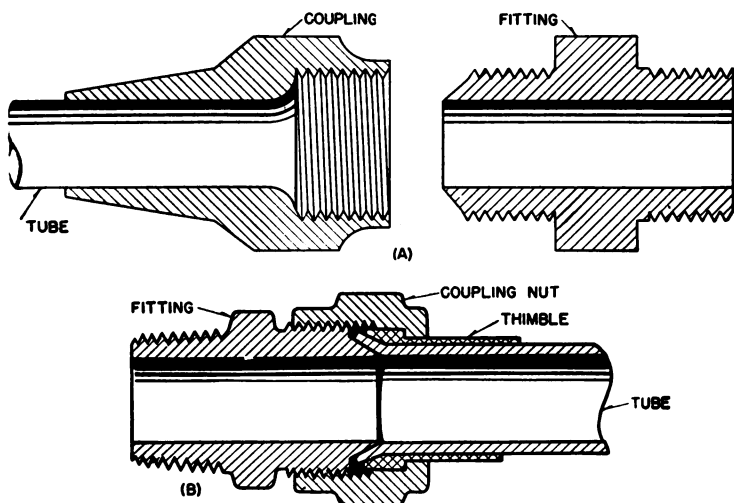

Figure 6.—Coupling for airplane fuel systems.
Flared-type couplings are used for connecting aluminum-alloy tubing. In the type that you see in figure 6 (A), the coupling consists of two pieces, one having an internal thread and the other an external thread. The internal member is slipped over the end of the tube. The end of the tube is flared, so as to fit the seat in the fitting. The external-threaded member is then screwed into the internal member, and its tapered end makes a gastight fit with the flared end of the tube.
The tube to be flared is clamped between the two blocks and the upper end of each tube hole is countersunk to conform to the exact shape of the desired flare on the tube. A punch or flaring pin is moved into position directly over the end of the tube in the countersunk hole, and is then struck with a hammer until the tube is properly flared. Unless the end of the tube is square and smooth—you should use a file for this purpose—you will probably get a one-sided or cracked flare. Make the flare slightly longer than the taper on the end of the clamping nut, and a little shorter than the tapered surface on the fitting, as is shown in figure 6 (*B*). Do not make the flare too long, however, as it will not be drawn down tight on its seat, and a poor joint will result.